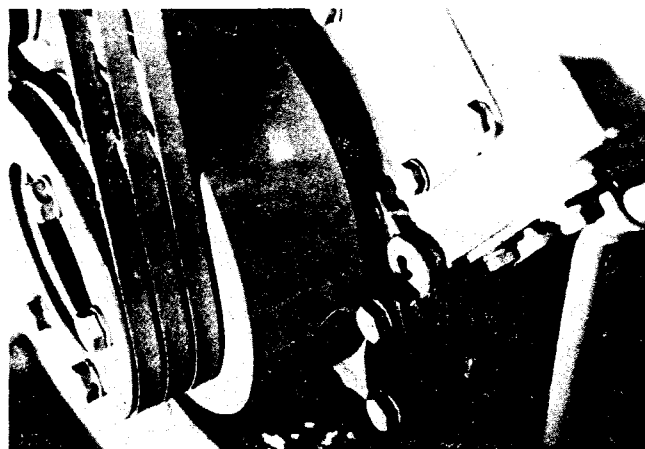
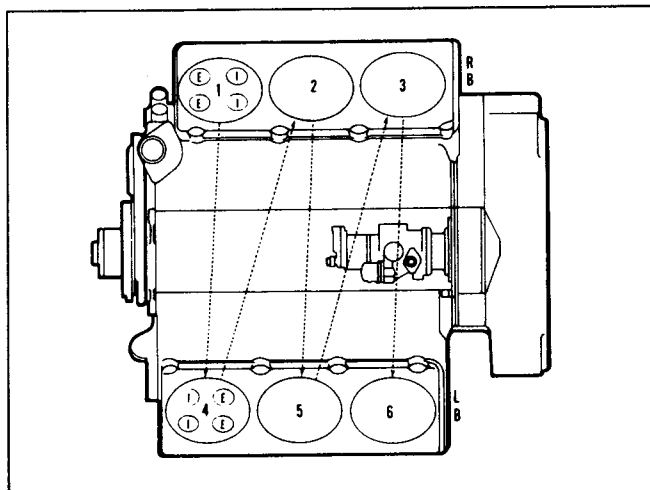
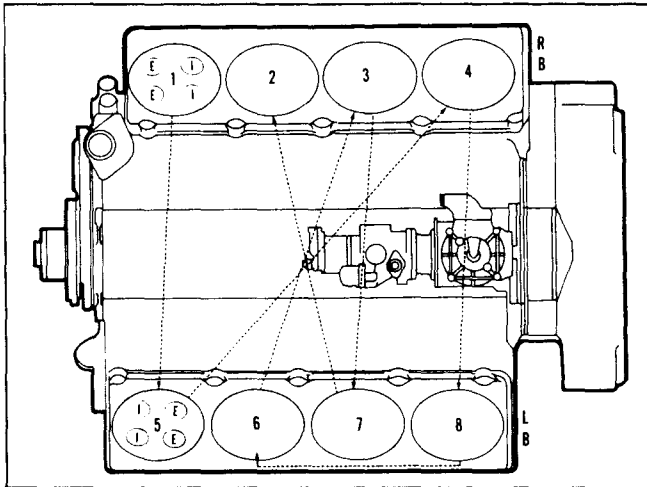

Fig. 2-28, (OM103). Valve set marks — V-378, V-504, V-555 Engines
Fig. 2-29, (V11461). V6 firing order
Fig. 2-30, (V11462). V8 firing order
1. Turn crankshaft in direction of rotation until No. 1 “VS” mark appears on the vibration damper or crankshaft pulley. See Fig. 2-28 for location of valve set marks. In this position, both intake and exhaust valves must be closed for cylinder No. 1; if not, advance crankshaft one revolution. See Fig. 2-29, Fig. 2-30 and Table 2-3 for firing order.